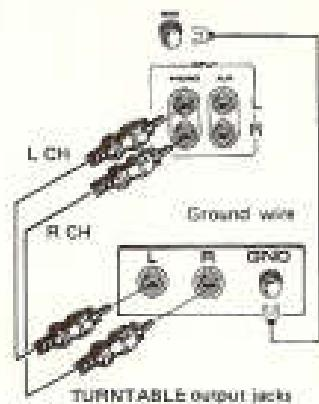

Fig. 7 — Connecting the BX-7730 to turntable.
A stereo turntable with a moving magnetic (MM) cartridge can be connected to the PHONO input jacks (Fig. 7). The upper jack is for the left channel output cable from the turntable, and the lower jack for the right channel cable. The ground wire or plug from the turntable should be connected to the GND terminal of the Receiver.